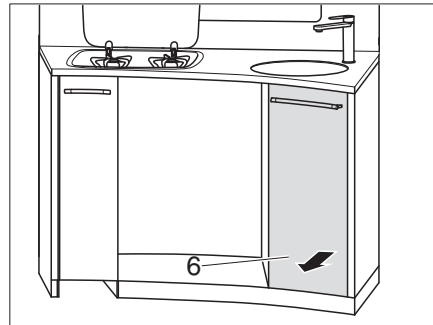

Fig. 118 Removing high kitchen drawers
- Remove the high kitchen drawer (Fig. 118,6).